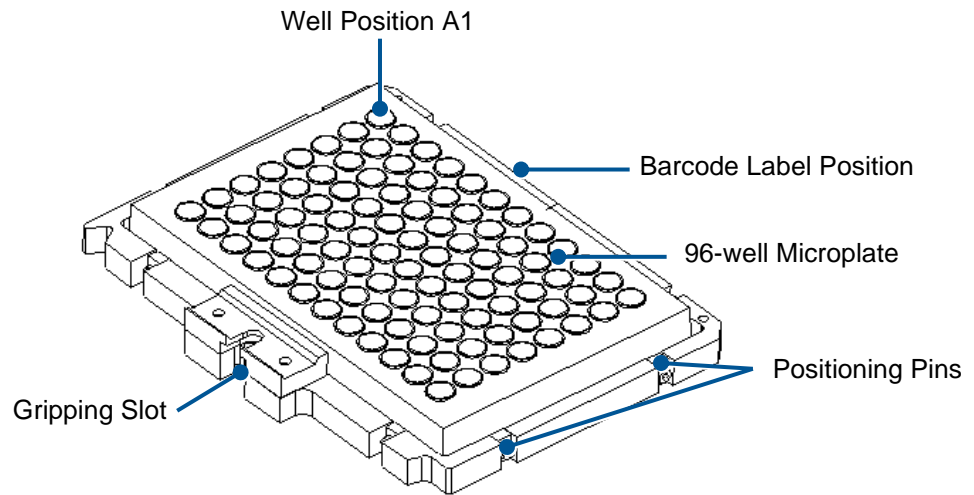
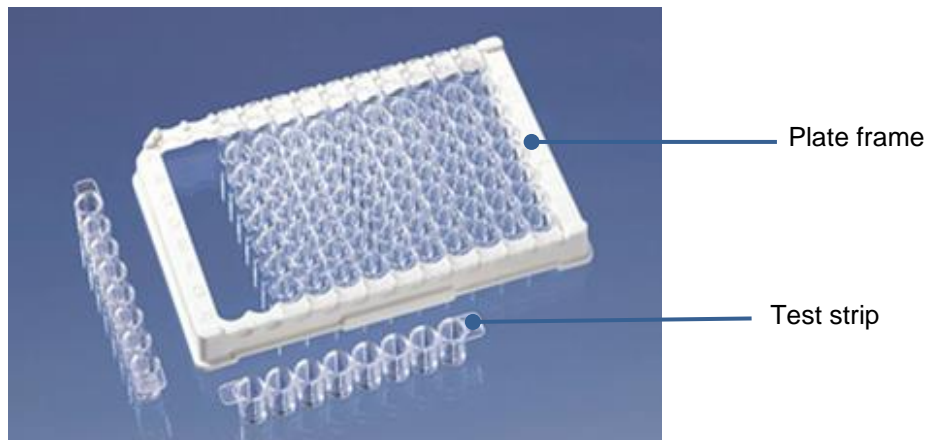

Figure 16: Plate Holder Containing a 96-Well Microplate
Figure 17: Plate Frame Containing Twelve-Well Test Strips
A plate for an assay is either prepared by your facility or obtained as part of a test kit from a DYNEX reagent kit manufacturing partner. The test plate consists of either a 96-well microplate with eight rows of twelve wells (Figure 16) or a plate frame into which up to twelve eight-well test strips are inserted (Figure 17).
Each plate must be placed in a plate holder (Figure 16) before it is loaded. Plate holders have gripping slots to allow the pipette module to transfer the microplate between modules or to position a microplate in front of the barcode reader.
- **Note:** The microplate must always be seated in the plate holder with well A1 positioned and the barcode label attached as shown in Figure 16.